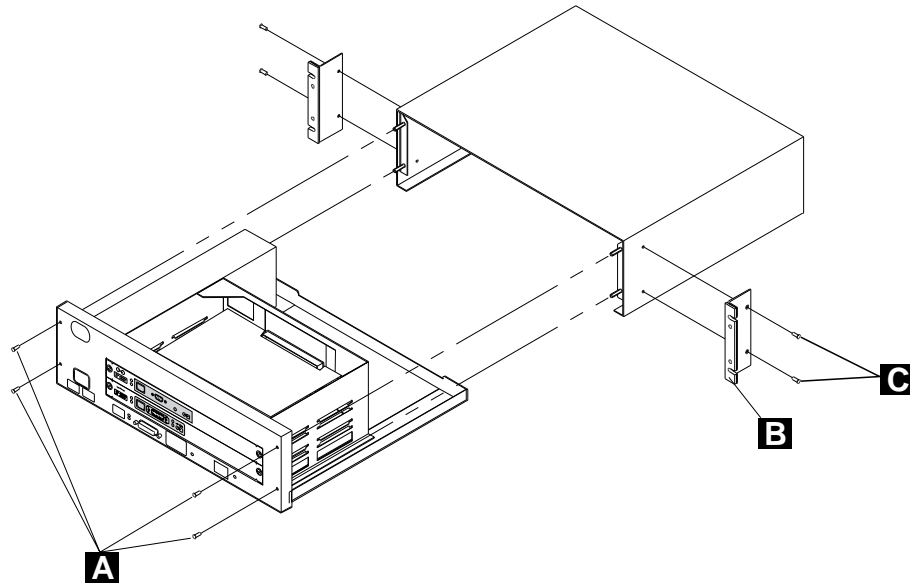

Figure 2-23. Placing the Ethernet Bridge in a Controller Expansion
- b. ____ Attach the rack-mounting brackets using the four short screws. See Figure 2-23.
- 2) ____ Remove the four retaining screws **A** on the front of the ethernet bridge. See Figure 2-23.
- g. ____ If you have removed the chassis (the inner power supply and planar board combination), slide it back into the cover and replace the four retaining screws, which you removed earlier. See Figure 2-23 on page 2-19.